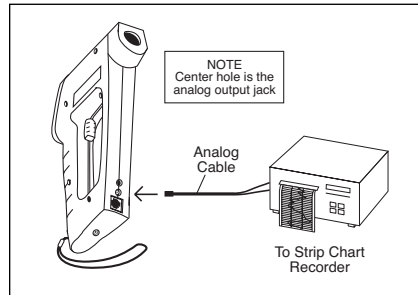

Figure 2-7 Recorder Hookup
- To record the temperature profile across the surface, connect the IR thermometer to a strip chart recorder. Refer to Figure 2-7 for details. The IR thermometer provides an analog output of 1 mV/degree.
4. To record the temperature profile of the moving surface, connect the IR thermometer to a strip chart recorder. Refer to Figure 2-7 for details.
2. Connect the analog output of the thermometer to a strip chart recorder as shown in Figure 2-7.